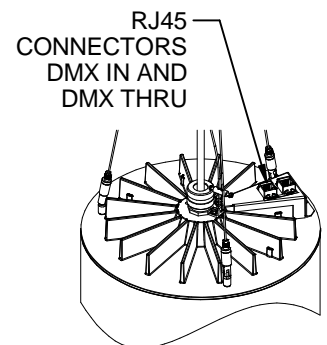

Fig. 3
1. Use standard CAT5e cables (by others) to connect the MC10LED to the DMX control system. There are two RJ45 connectors located on the MC10LED CCM top casting (**Fig. 3**). Connect the DMX control “IN” CAT5e cable to the RED “DMX IN” RJ45 connector, and use the BLUE “DMX THRU” RJ45 connector to connect to the next fixture in the DMX Daisy-chain using a second CAT5e cable, or if it is the last fixture in the daisy-chain, plug a 120 Ohm terminator (by others) into the connector. The CAT5e cables can be tied to the steel cables provided with the MC10LED CCM fixture using standard nylon wire ties (by others). **See the front page of this document for more details and warnings about using CAT5e cables with DMX systems.**